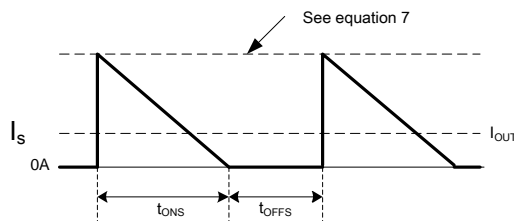

Figure 4. Secondary Current Waveform
The AP3983B/C/D is designed to work in constant current (CC) mode. Figure 4 shows the secondary current waveforms.